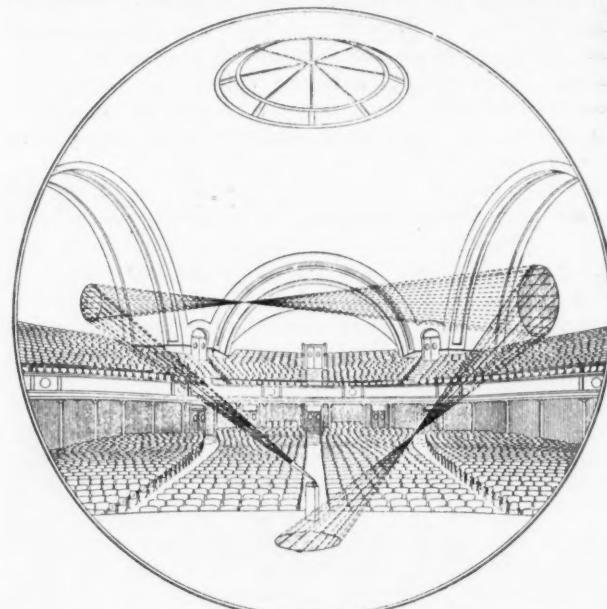

Fig. 4. Perspective Section Showing how an Echo Is Formed on the Stage by Two Reflections. Diffraction Effects Are Not Considered in this Drawing.
*Method of Eliminating Echoes.*—Although the time of reverberation was reduced to be fairly satisfactory, as just explained, the echoes still persisted, and were very annoying. Attempts were made to reduce individual echoes by hanging cotton flannel on the walls at critical points. Thus the shaded areas in Fig. 4 were covered and also the entire rear wall in the balcony. Pronounced echoes still remained, and it was evident that some drastic action was necessary to alleviate